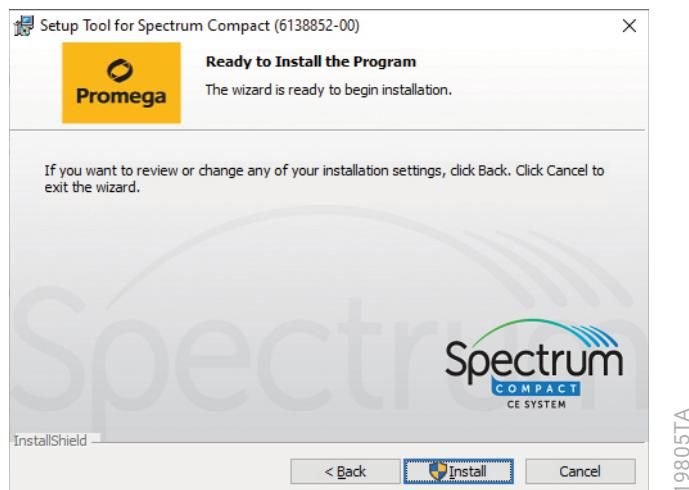

Figure 186. 'Ready to Install the Program' window.
3. The Ready to Install the Program window appears (Figure 186). Select **Install**.